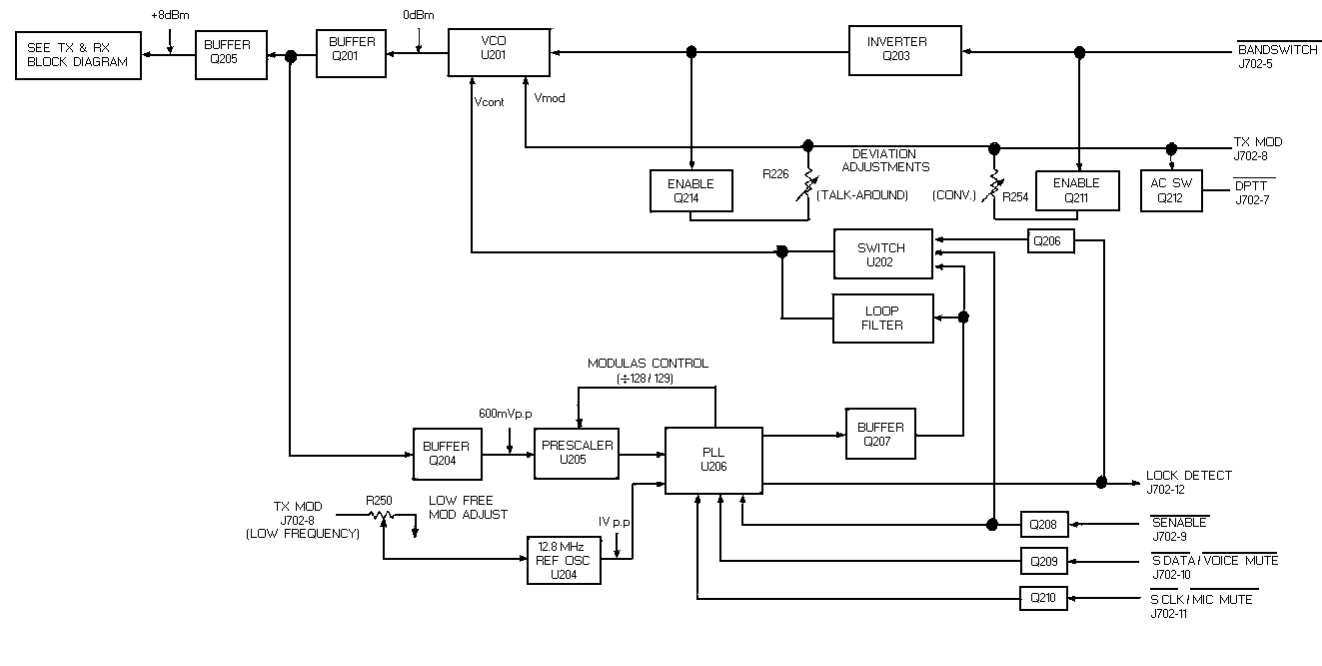

Figure 1 - Synthesizer Block Diagram
The synthesizer generates all transmit and receive RF frequencies for the mobile radio. A block diagram of the frequency synthesizer circuit is shown in Figure 1. When the radio is transmitting, this phase-locked synthesizer circuit locks the VCO on to the actual transmitter’s frequency. The VCO’s signal is buffered by two (2) common-emitter amplifier circuits and applied to the exciter module. The drive from the VCO ranges from 806.0125-824.9875 MHz when the radio is transmitting on a standard trunking channel (806.0125-824.9875 MHz). When the radio is receiving (851.0125-869.9875 MHz), the synthesizer operates 45 MHz below the receiver’s frequency. This provides the required low-side injection for the superheterodyne receiver.